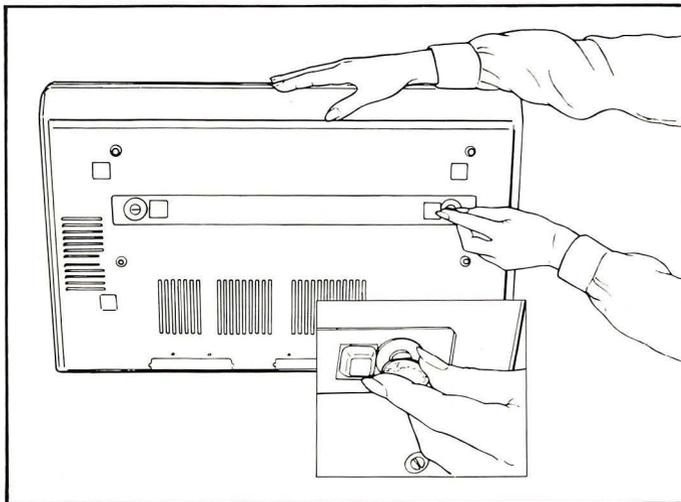

Figure 1. Removing the Metal Shipping Strip
2. You will see a metal strip running along the bottom of the printer. Remove the two screws in the strip and take it away. Refer to Figure 1.